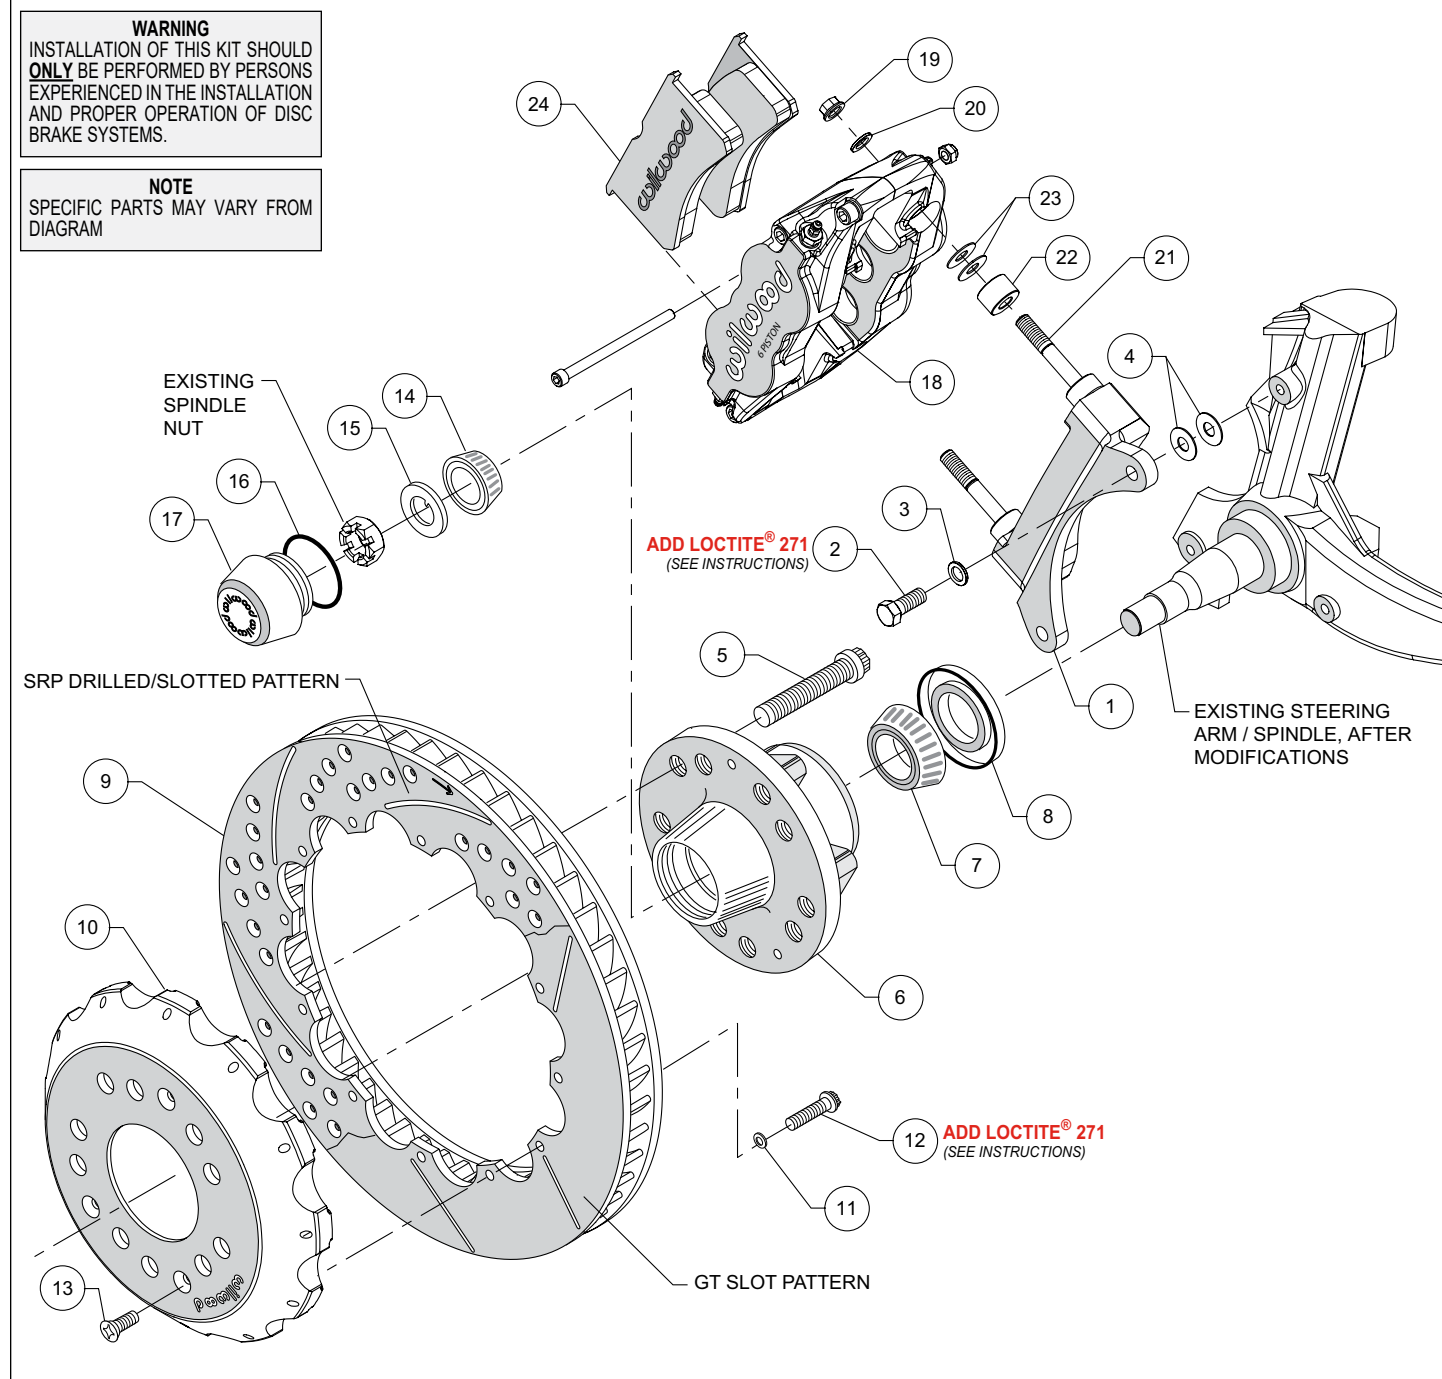
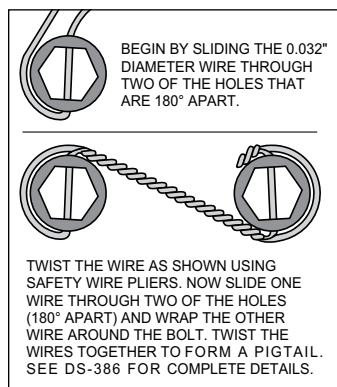

Figure 2. Typical Installation Configuration
Figure 4. Safety Wire Diagram
**NOTE:** Numbers in parenthesis refer to the parts list and Figure 2 on the preceding pages.
- The caliper mount bracket (1) should initially be installed with clean, dry threads on the mounting bolts. Orient the bracket as shown in Figure 2 and Photo 1, and install using bolts (2) and washers (3). Initially place two .035" thick shims (4) on each bolt between the bracket and upright, Figure 2. Temporarily tighten the mounting bolts. **NOTE:** The bracket must fit squarely against the mounting points on the spindle. Inspect for interference from casting irregularities, machining ridges, burrs, etc. Later, after the caliper alignment has been checked, the mount bolts will be secured using red *Loctite*® 271.
- Install wheel studs (5) into the hub (6), Photo 2. Torque to 77 ft-lb. **NOTE:** There are two five lug patterns in the hub (5 x 4.50 and 5 x 4.75). Ensure the correct hub stud pattern is being used to fit the wheel application.
- Pack the large inner bearing cone (7) with high temperature disc brake bearing grease (available from your local auto parts store) and install into the backside of the hub (6), Photo 3.
- Install the grease seal (8) by pressing into the backside of the hub (6), flush with the end of the hub, Photo 3.
- Orient the rotor (9) and the hat (10) as shown in Figure 2 and Photo 4. Attach rotor to hat using bolts (12) and washers (11). Apply red *Loctite*® 271 to the bolt threads and torque to 155 in-lb using a criss-cross pattern. For an added measure of security, the bolts may be safety wired using standard 0.032 inch diameter stainless steel safety wire as shown in Figure 4. Refer to Wilwood's data sheet DS-386 (available at [www.wilwood.com/Pdf/DataSheets/ds386.pdf](http://www.wilwood.com/Pdf/DataSheets/ds386.pdf)) for complete safety wire installation instructions.
- Pack the small outer bearing cone (14) with high temperature disc brake bearing grease and install into hub (6). Slide the hub assembly onto the spindle. Secure using spindle washer (15) and OEM spindle nut, Photo 5. Adjust bearings per OEM specifications. Install saved OEM nut lock (if any) and a new cotter pin (not included).
- Screw dust cap (17) into hub (6), Photo 6. Friction created by the o-ring (16) on the dust cap keeps it from unscrewing. **NOTE:** The O.D. of the existing OEM spindle washer may be larger than the I.D. of the dust cap not allowing it to seat against the hub face. Therefore, use the spindle washer (15) supplied with the kit instead of the OEM washer.
- Slide the hat/rotor assembly (9/10) onto the hub (6) taking care to align the small countersunk holes in the hat (10) with the small threaded holes in the hub. **NOTE:** The hat must fit flush against
- NOTE:** This kit contains distinct right and left hand calipers that must be mounted in a specific direction, as described below. Initially place two .035" thick shims (23) and one spacer (22) on each stud (21) between the caliper and the bracket, as shown in Figure 2 and Photo 7. Mount the caliper (18) onto the bracket (1)
using lock nuts (19) and washers (20), Figure 2. Ensure that the caliper is mounted so the largest pistons are at the rotor exit end of the caliper, in relation to the direction of rotor rotation. Temporarily tighten the lock nuts and view the rotor through the top opening of the caliper. The rotor should be centered in the caliper, Photo 8. If not, adjust by adding or subtracting shims (4) between the bracket and the spindle. Always use the same amount of shims on each of the two mounting bolts. Once the caliper alignment is correct, remove the bracket mounting bolts one at a time, apply red *Loctite*® 271 to the threads, and torque to 40 ft-lb.